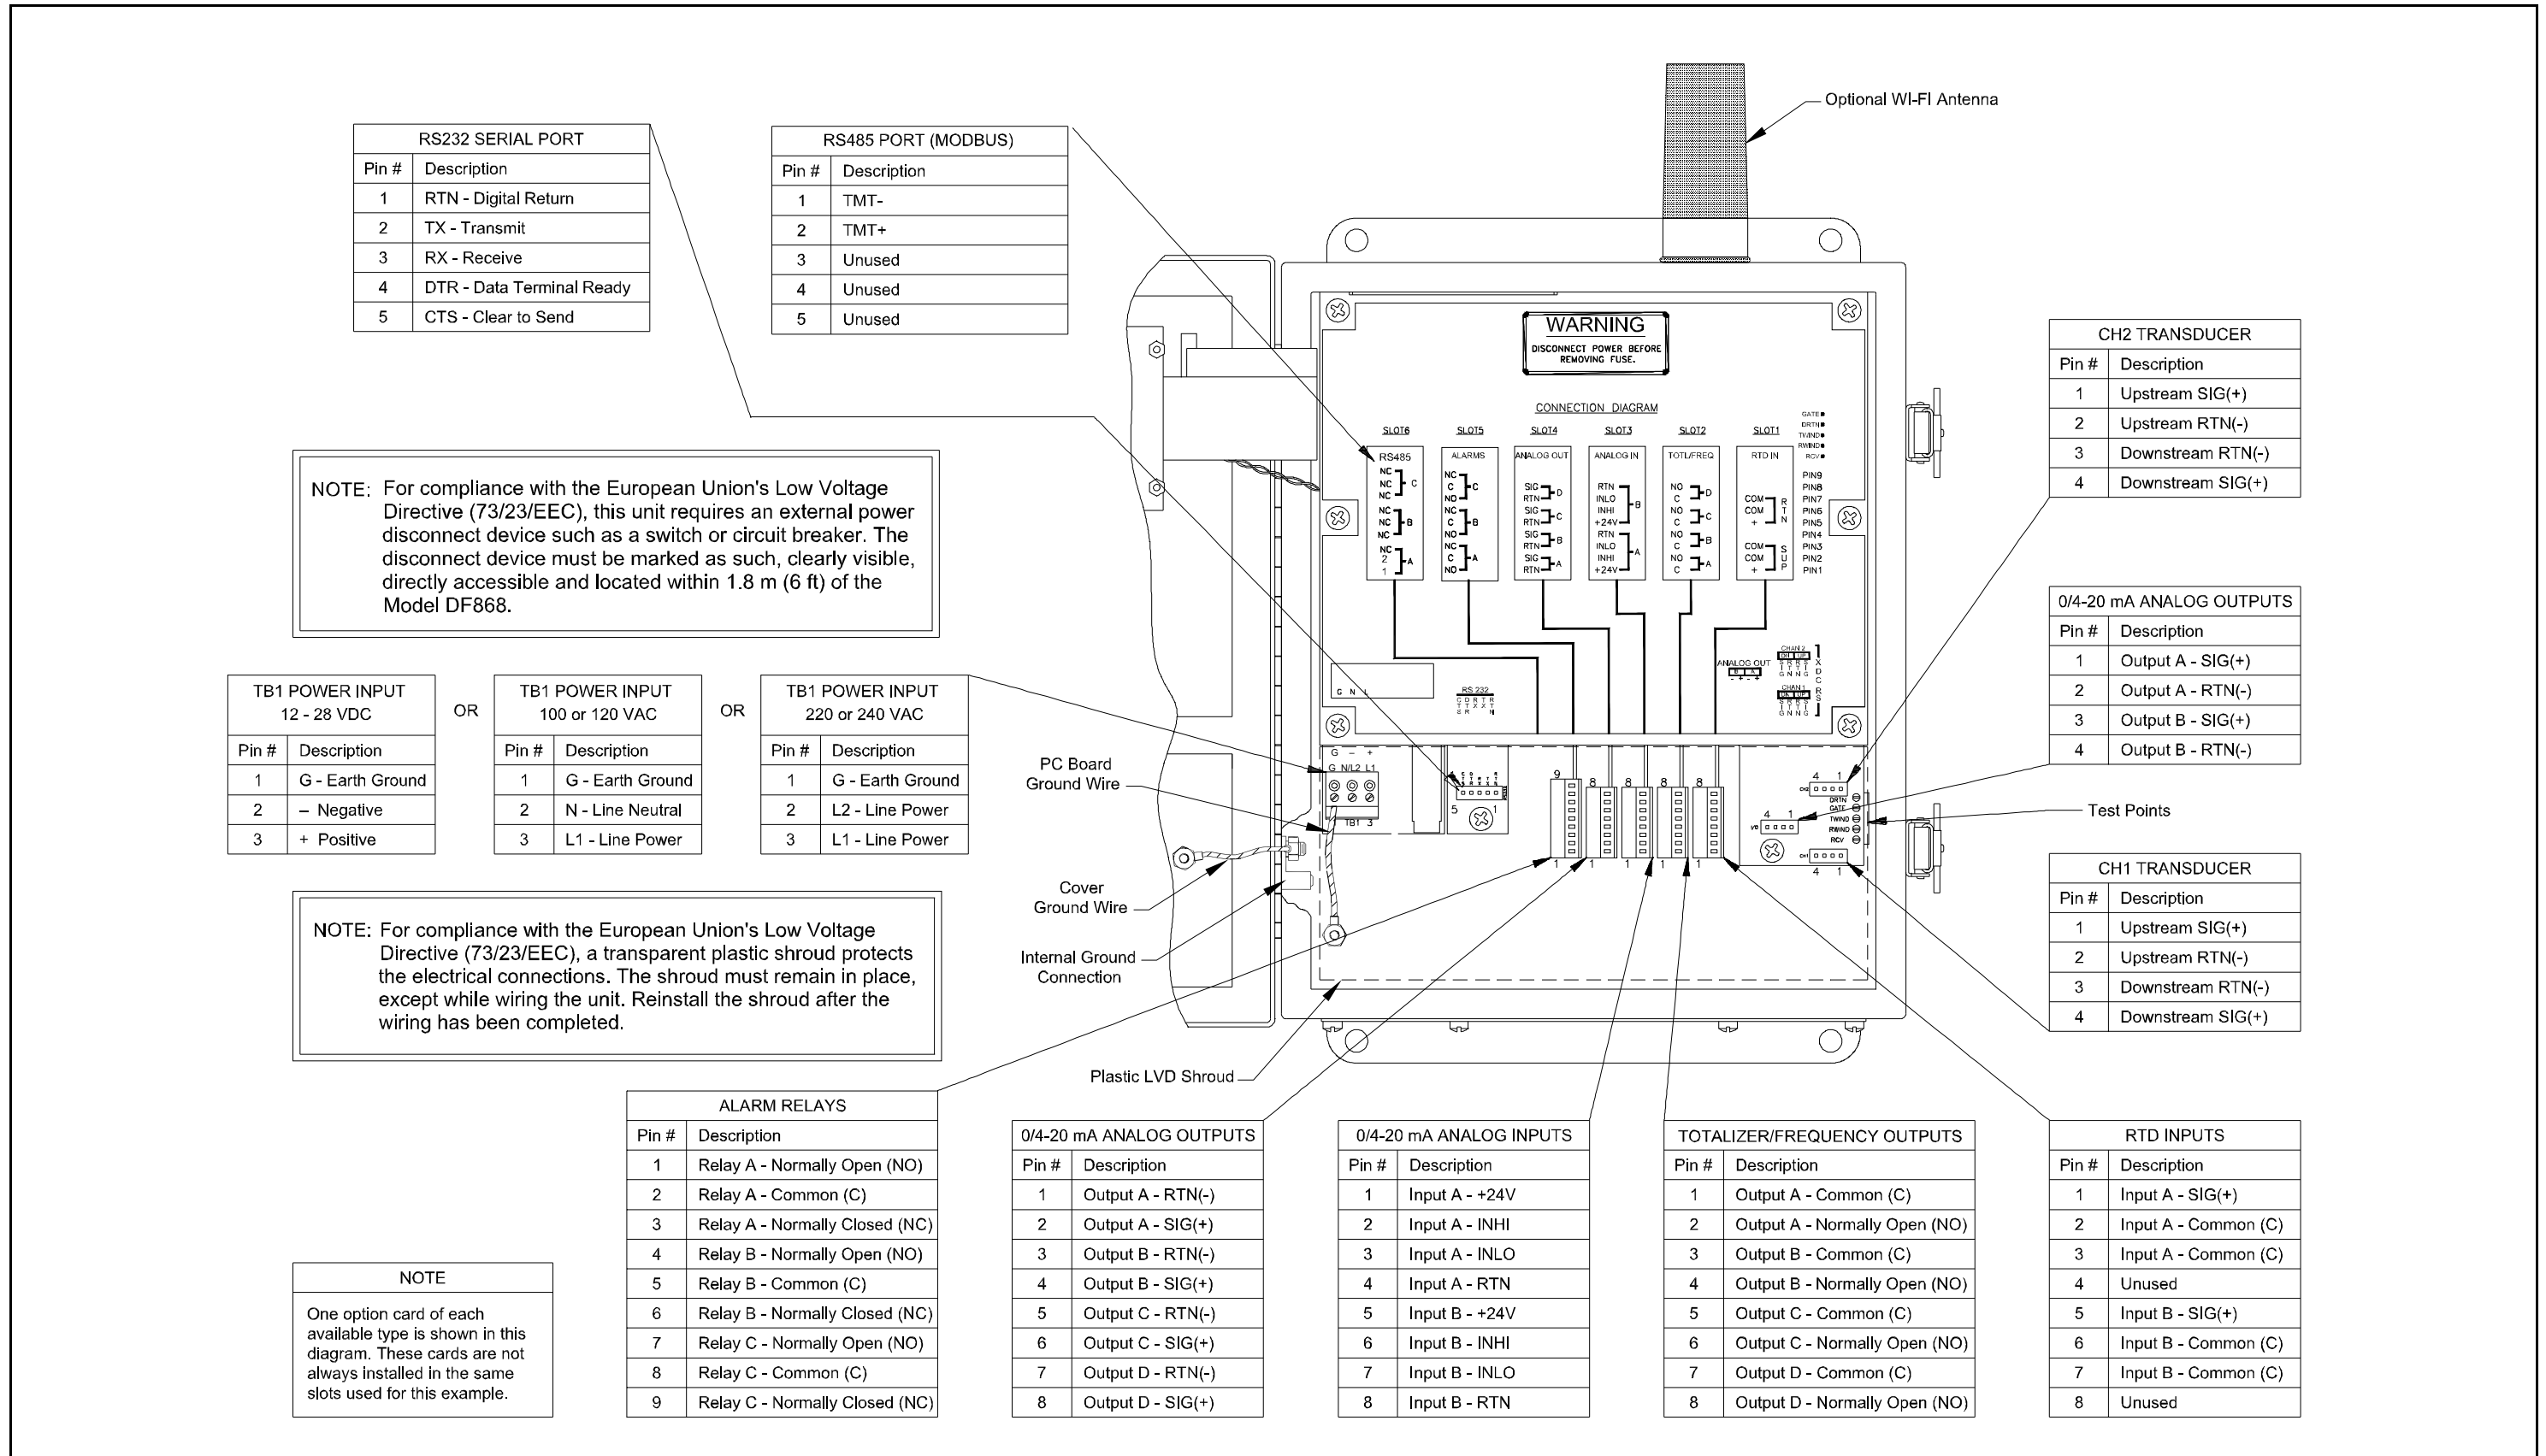

Figure 10: Model DF868 Electronics Console Wiring (ref. dwg #702-213, sht 1 of 2)
3. Refer to the wiring diagram in Figure 10 on page 16 and connect the transducer cables to the CHI terminal block. Then, secure the cable clamp.
Refer to Figure 10 on page 16 for the location of terminal block **I/O** and wire the terminal block as shown.
Use the serial port to connect the Model DF868 flowmeter to a printer, an ANSI terminal or a personal computer. The RS232 interface is wired as Data Terminal Equipment (DTE), and the signals available at terminal block J1 are shown in Table 1. Refer to Figure 10 on page 16 and complete the following steps:
To wire the RS485 serial port, refer to Figure 10 on page 16 and complete the following steps:
Connect the two wires required for each alarm relay in accordance with the pin number assignments shown in Figure 10 on page 16.
Wire the analog input terminal block in accordance with the pin number assignments shown in Figure 10 on page 16.
If the flowmeter system includes additional transmitters, the Model DF868 can accommodate up to three more analog inputs option cards. These option cards are identical to the temperature card described on page 11 and they should be wired in the same manner (see Figure 10 on page 16).
Each totalizer/frequency output requires two wires. Wire this terminal block in accordance with the pin number assignments shown in Figure 10 on page 16. Figure 8 shows sample wiring diagrams of a totalizer output circuit and a frequency output circuit.
Each RTD input requires three wires, which should be fed through one of the conduit holes on the bottom of the electronic console. (For maximum accuracy, the three wires must be of equal length.) Wire this terminal block in accordance with the pin number assignments shown in Figure 10 on page 16.
Connections to these outputs may be made with standard twisted-pair wiring. The total current loop impedance for these circuits must not exceed 1000 ohms. Wire this terminal block in accordance with the pin number assignments shown in Figure 10 on page 16.
The MODBUS option card must be plugged into either slot 5 or slot 6 of the DF868. On the option card, pin 1 is the [TMT-] inverting or negative connection and pin 2 is the [TMT+] non-inverting or positive connection. To link the DF868 to the control system, connect the two wires of the twisted-pair cable from these terminals to the corresponding terminals at the control system, in accordance with the pin number assignments shown in Figure 10 on page 16.